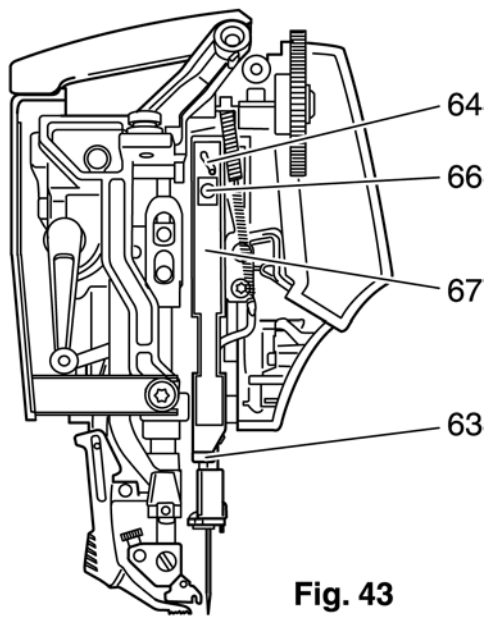

Fig. 43
- Loosen allen screw 66 by only a 1/4 of a turn (fig. 43).
- Tighten allen screw 66 in this position (fig. 43).